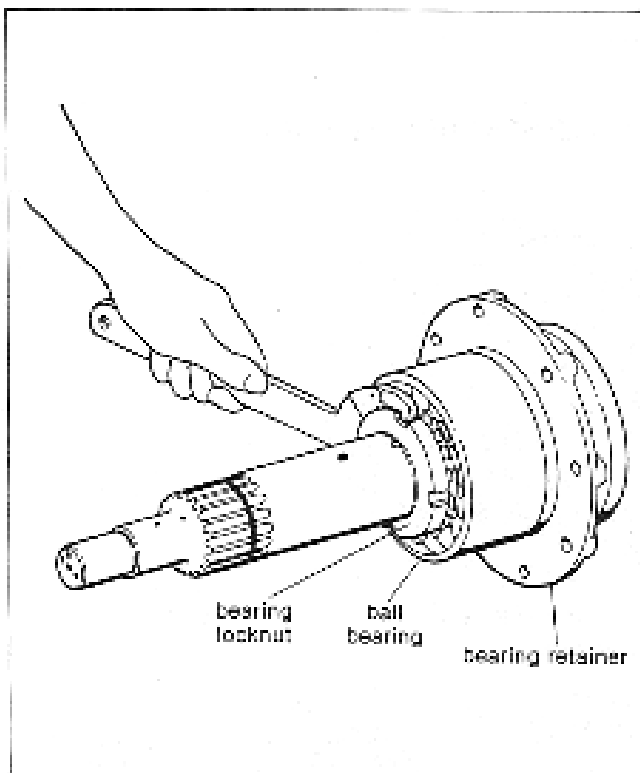

Fig. 32. Removing Bearing Locknut from Shaft.
4. Remove bearing locknut with spanner wrench and remove lock washer. See fig. 32 below.